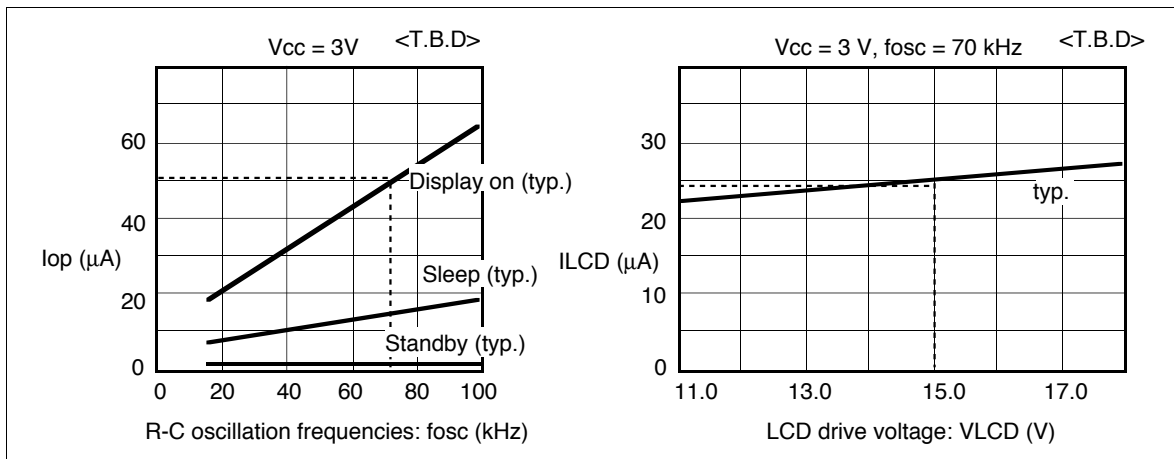

Figure 57 Relationship between the Operation Frequency and Current Consumption
7. The following shows the relationship between the operation frequency (fosc) and current consumption (Icc) (figure 57).